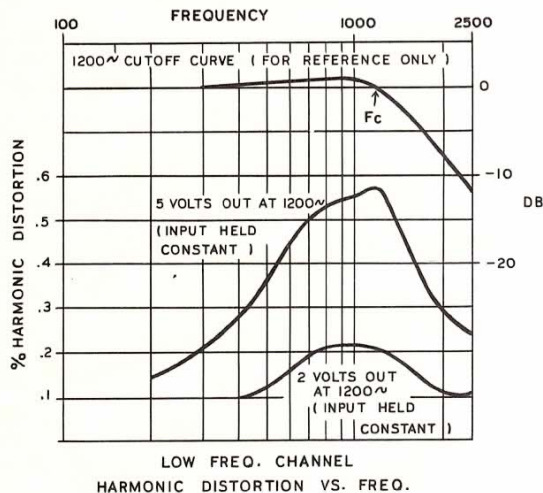
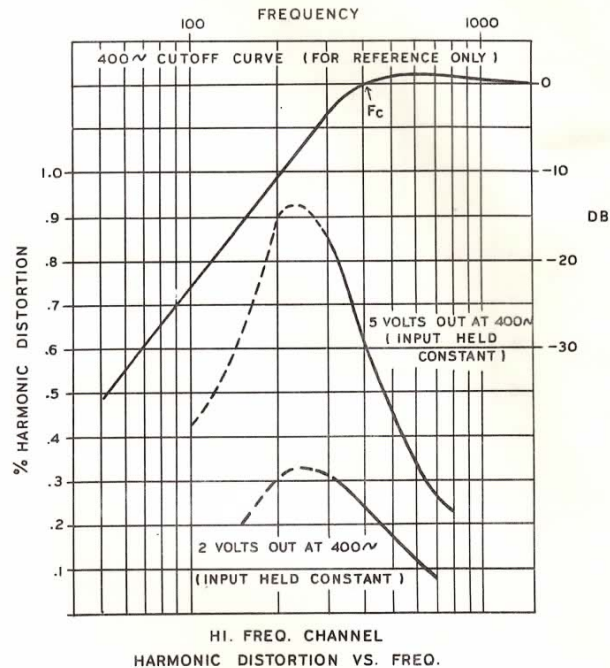

Figure 3
Figure 4
- Low-Frequency Channel: Less than .1 of 1% at 2 volts out at any frequency up to approximately one-half the cutoff frequency. See curve (Figure 3) for further data on distortion vs. frequency.
- High-Frequency Channel: Less than .25 of 1% when measured at the cut-off frequency; drops rapidly at higher frequencies, to less than .1 of 1% (see curve of Figure 4).
Nevertheless the curves indicate the relationship between harmonic content and the fundamental at various frequencies in the region of cutoff, which would hold under actual operating conditions; it is NOT a TRUE measure of distortion introduced by non-linearity of the XO-1 itself. Since the measurements were made by the method which shows "total harmonic content", it is difficult to accurately correct the curves in order to gain a true distortion figure for the XO-1. However, if this were done, it would be found that the distortion would not rise appreciably with decreasing frequency as appears to be the case in Figure 4. In Figure 3 the corrected distortion figure would be somewhat higher at frequencies close to F_c and would tend to level off above F_c instead of dropping. However, these corrected distortion figures are of little value anyway in the case of Figure 3 since harmonic products of frequencies approaching F_c are rapidly attenuated. From this it can be concluded that distortion introduced by the XO-1, at normal operating levels, can be considered negligible.